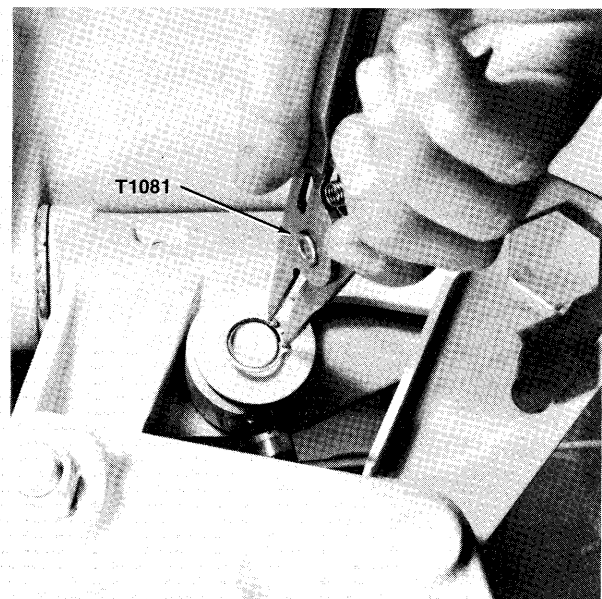

Figure 3—Removing Retaining Ring
- A. Remove retaining ring securing large washer and shock absorber shaft — upper to top of starboard shock absorber using retaining ring pliers (Special Tool T1081) as shown in figure 3.